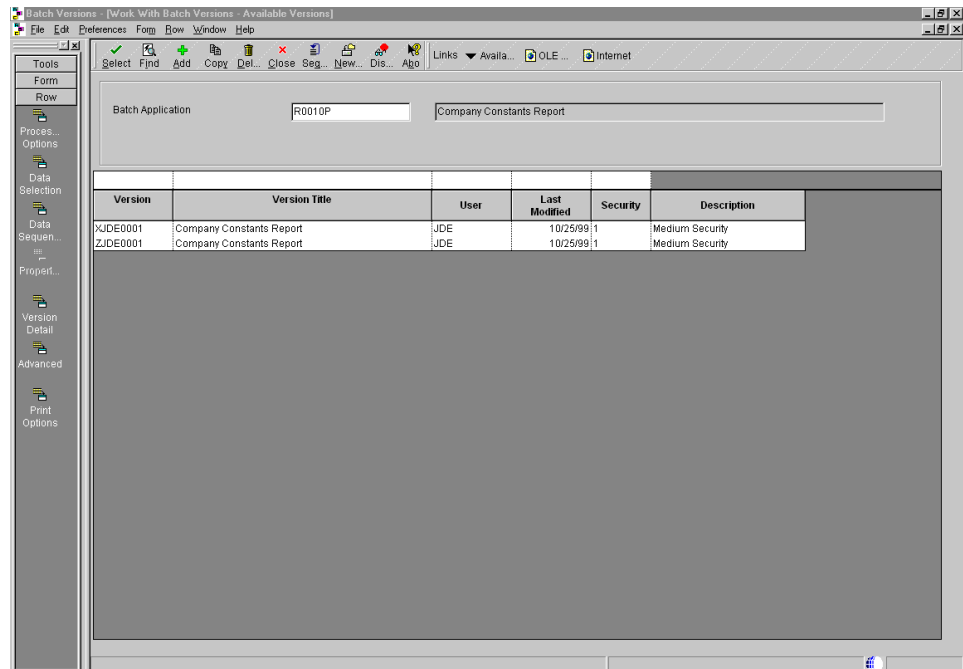

Figure 194. The Work with Batch Versions display
3. Click the **Find** button, and select Version **ZJDE0001**. Your display should appear as shown in Figure 194.